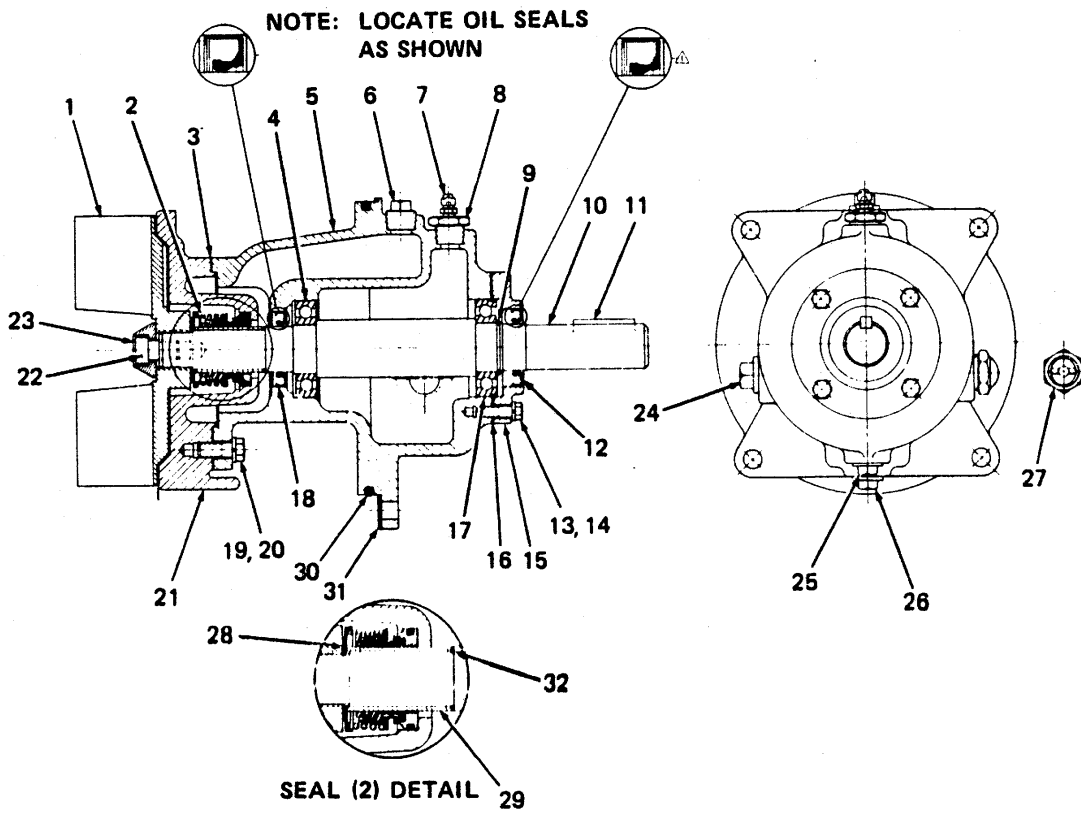

Figure 2. Rotating Assembly for Pump Model T3A3-B
Remove the hex head cap screws (5) securing the rotating assembly (2) to the volute casing (1). Separate the assemblies and remove the rotating assembly adjusting shims (7, figure 1 and 31, figure 2). For ease of reassembly, tag and tie the shims, or measure and record their thickness. Inspect the wear plate (8, figure 1) and replace it if scored or worn.
To loosen the impeller (1, figure 2), immobilize it by placing a block of wood between the vanes. Remove the impeller capscrew (22) and washer (23), and turn the shaft (10) counter to the direction of pump rotation. Unscrew the impeller from the shaft and remove the impeller adjusting shims (28). For ease of reassembly, tag and tie the shims, or measure and record their thickness. Replace the impeller if cracked or worn.
Before removing the seal assembly, remove the seal cavity drain plug (26, figure 2) to drain the seal cavity. Clean and reinstall the seal cavity drain plug.
Reinstall the impeller adjusting shims and the impeller. Reinstall the impeller washer and cap screw, and torque the cap screw to 90 ft-lbs. A clearance of .025 to .040 inch between the impeller and seal plate (21, figure 2) is necessary for maximum pump efficiency. Measure this clearance, and add or subtract impeller shims until it is reached. When the proper clearance is reached, remove the impeller cap screw, place "Never-Seez" compound or equivalent on the threads, and torque the cap screw to 90 ft-lbs.
Before reassembling the rotating assembly to the volute casing, replace the bearing housing O-ring (3, figure 1 and 30, figure 2).
Before starting the pump, remove the vented seal cavity plug (6, figure 2) and fill the seal cavity with SAE No. 30 non-detergent motor oil. Clean and reinstall the vented seal cavity plug.